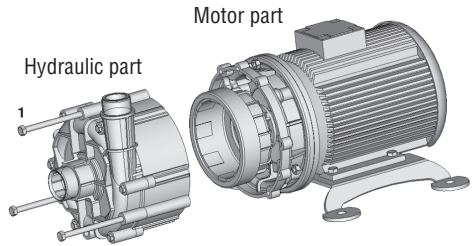

Fig. 8.1.1 A - First step of disassembling sequence
- Unscrew the connections (Fig. 8.1.1 A, Pos. 1) as described in the spare-parts list and remove the hydraulic parts from the motor parts.